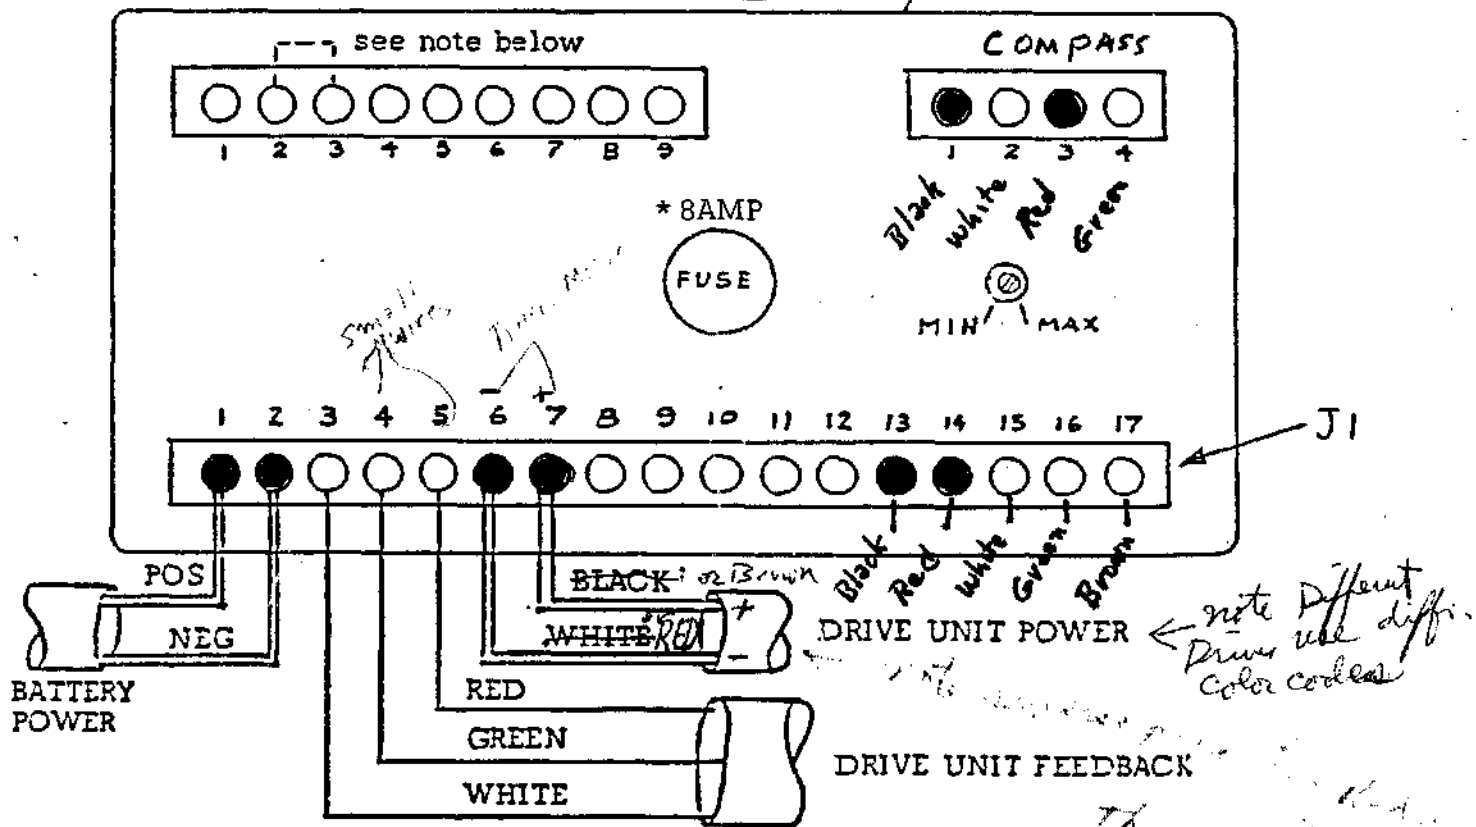

FIGURE 3.1
Interconnection of various units should be done carefully, in accordance with inner connection diagram (fig. 3.1), connector layout diagram, or damage to units may result. Particular attention and care should be exercised in connecting input power to ensure that polarity is observed.
3. Your Drive Unit will be received in its full retracted position for shipping. To position the Drive Unit at Center Helm for installation, temporarily connect the Drive Unit and power to the Control Unit as shown in Fig. 3.1 for the selected extension sense.
Drive units may be installed in numerous configurations. However, the resulting steering action when drive unit extends from Center position is to either steer the vessel to Port or STBD. The Control Unit must know which way it is installed so it may steer correctly. When the Drive Unit is installed to turn to PORT when it extends, wire Drive Unit to Control Unit (Shown in Fig 3.1 PORT EXTENSION). When Drive Unit is installed to turn to STBD when extended, install as shown in Fig. 3.1 STBD EXTENSION.
11. Shut OFF the input power and connect both the Drive Unit and input power leads to J1. (17 Pin Terminal Strip as shown in Fig. 3.1)
NOTE: BE SURE THE RUDDER FEEDBACK CABLE IS CONNECTED AS IN FIG. 3.1.